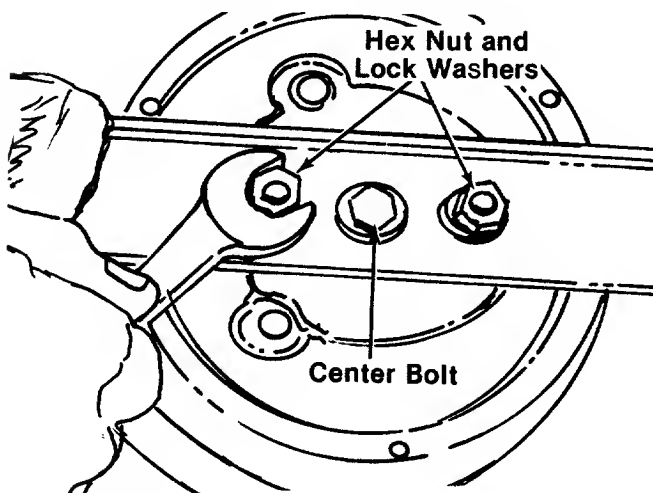

FIGURE 16.
To remove the cutting blade for sharpening or replacement, remove the two hex nuts and lock washers which hold the blade to the blade brake/clutch. See figure 16.
9. Tip the mower on its side. Remove the blade by removing two hex nuts and lock washers. Refer to figure 16.